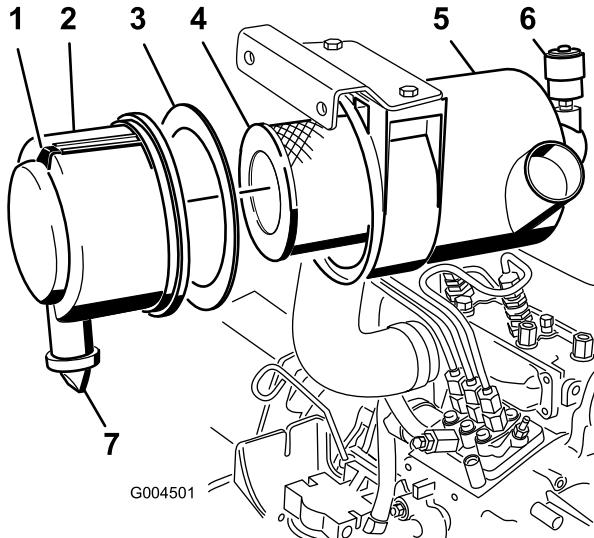

Figure 41
2. Service the air cleaner filter when the air cleaner indicator (Figure 41) shows red or every 400 hours (more frequently in extremely dusty or dirty conditions). Do not over service the air filter.
1. Pull the latch outward and rotate the air-cleaner cover counter-clockwise (Figure 41).
2. Remove the cover from the air-cleaner body (Figure 41).
- Remove and replace the primary filter (Figure 41).
- Ensure that the foam gasket is in place in the cover and that it is not torn or damaged (Figure 41).
- Remove the rubber outlet valve from the cover (Figure 41).
- Reset the indicator (Figure 41) if showing red.